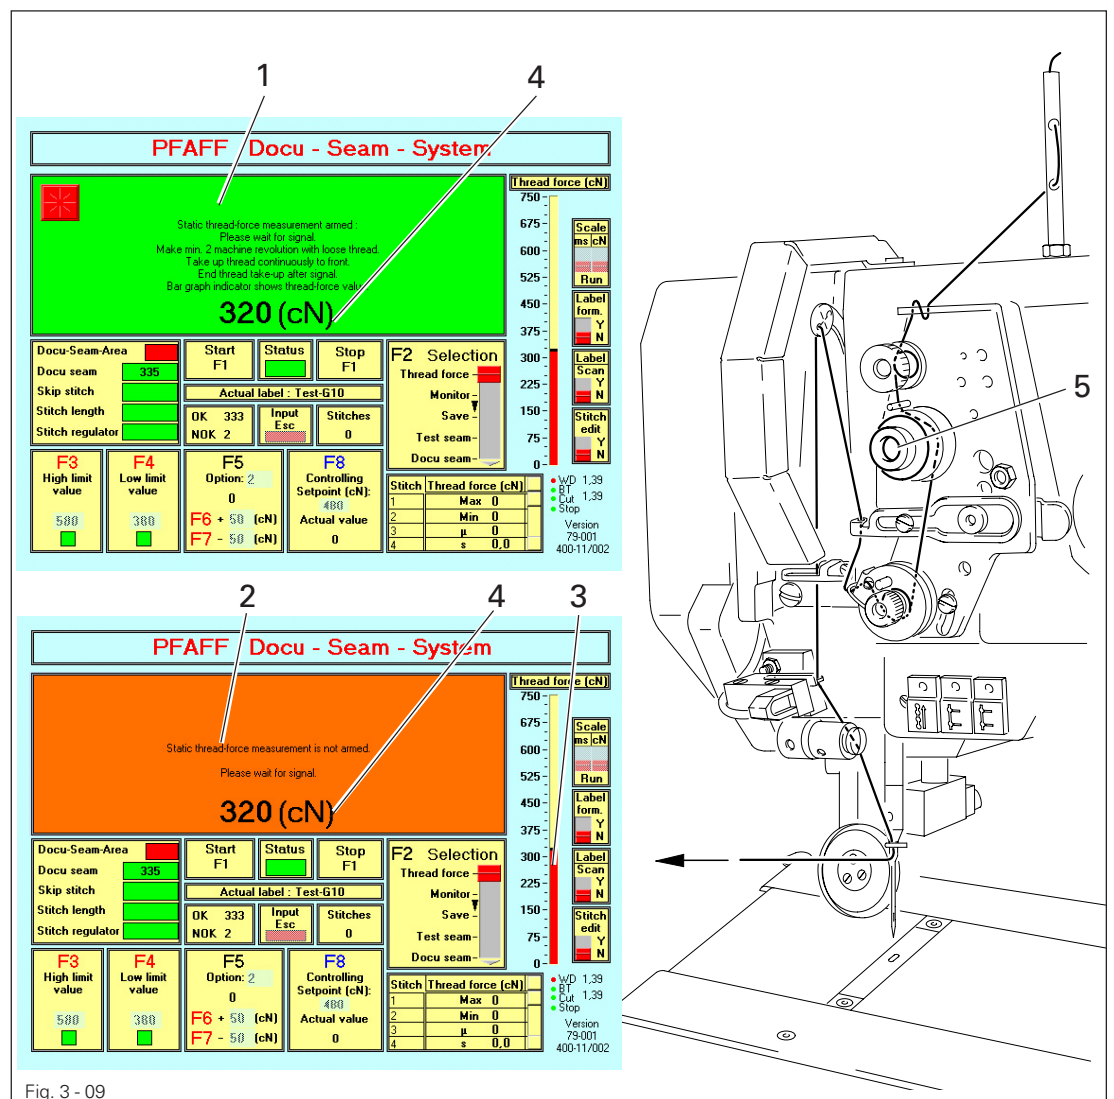

Fig. 3 - 09
- If necessary, adjust the measuring range for the thread force (see **Chapter 3.07 Display functions**, point 26, and 27, Fig. 3 - 08)